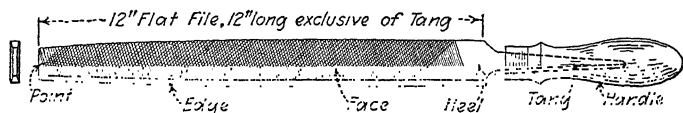
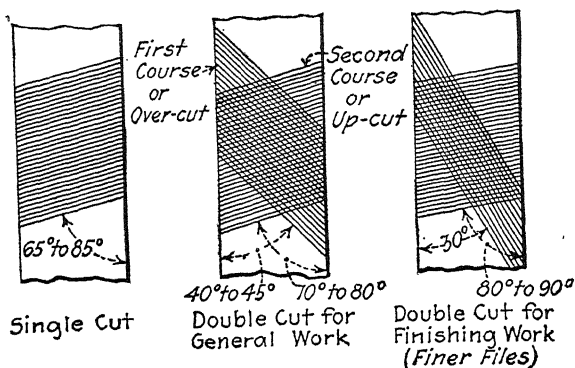

FIG. 222.
FIG. 223.
**256. Machine-shop Files.**—A file (Fig. 222) is a piece of high-carbon crucible steel having teeth cut upon its body by parallel rows of chisel cuts. These cuts are made more or less diagonally across the face depending on the material on which the file is to be used and whether for roughing or finishing. When a file has a single series of cuts across its face, it is known as "single cut." The "double-cut" file has two courses of cuts crossing each other (see Fig. 223). The terms "rough," "coarse," "bastard," "second cut," "smooth," and "dead smooth" refer to the distance apart of the parallel cuts on the larger files (10 in. or over, see Fig. 224), and on smaller files the Nos. 00, 0, 1, 2, 3, 4, 5, 6, 7, 8, refer to the same thing, No. 00 being the coarsest. These terms are relative and depend on the length of the file; a 16-in. "second-cut" file is much coarser than a 10-in. "second cut" and a No. 00 8-in. file is
*The Mill File.*—Nearly all of the files used in machine shops are double cut, the most notable exception being the mill file. The mill file is single cut, of substantially the shape of the flat file (Fig. 222) and most commonly 10 or 12 in. in length. It may be obtained with flat or rounded edges or one flat and one round as desired. Bastard or second cut are mostly
FIG. 224.—In the larger files the relative coarseness of the given cut is known by name, as above; in the smaller files the cuts are distinguished by numbers. Do not get the term “second cut” confused with the term “double cut” as illustrated in Fig. 223.
The *flat file* is rectangular in shape and tapers slightly narrower and thinner toward the point and toward the heel (Fig. 222). It is the most commonly used file in the shop for general work. Usually 12 in. long and bastard cut but may be obtained in lengths from 6 to 16 in. in any cut.